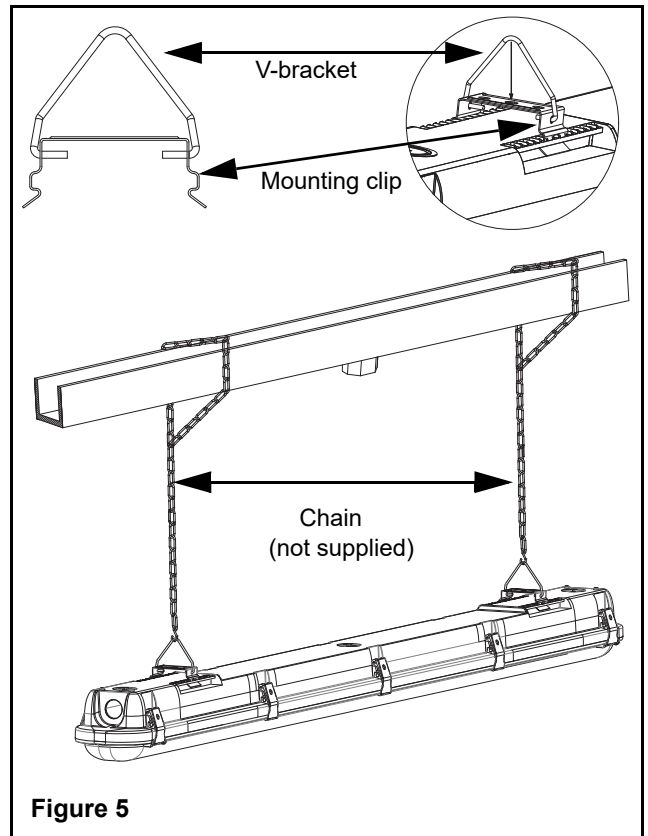

Figure 5
1. Attach V-bracket to each mounting clip by spreading the ends of the V-bracket apart and then inserting the legs into the holes in the side of the mounting clips (see fig. 5).